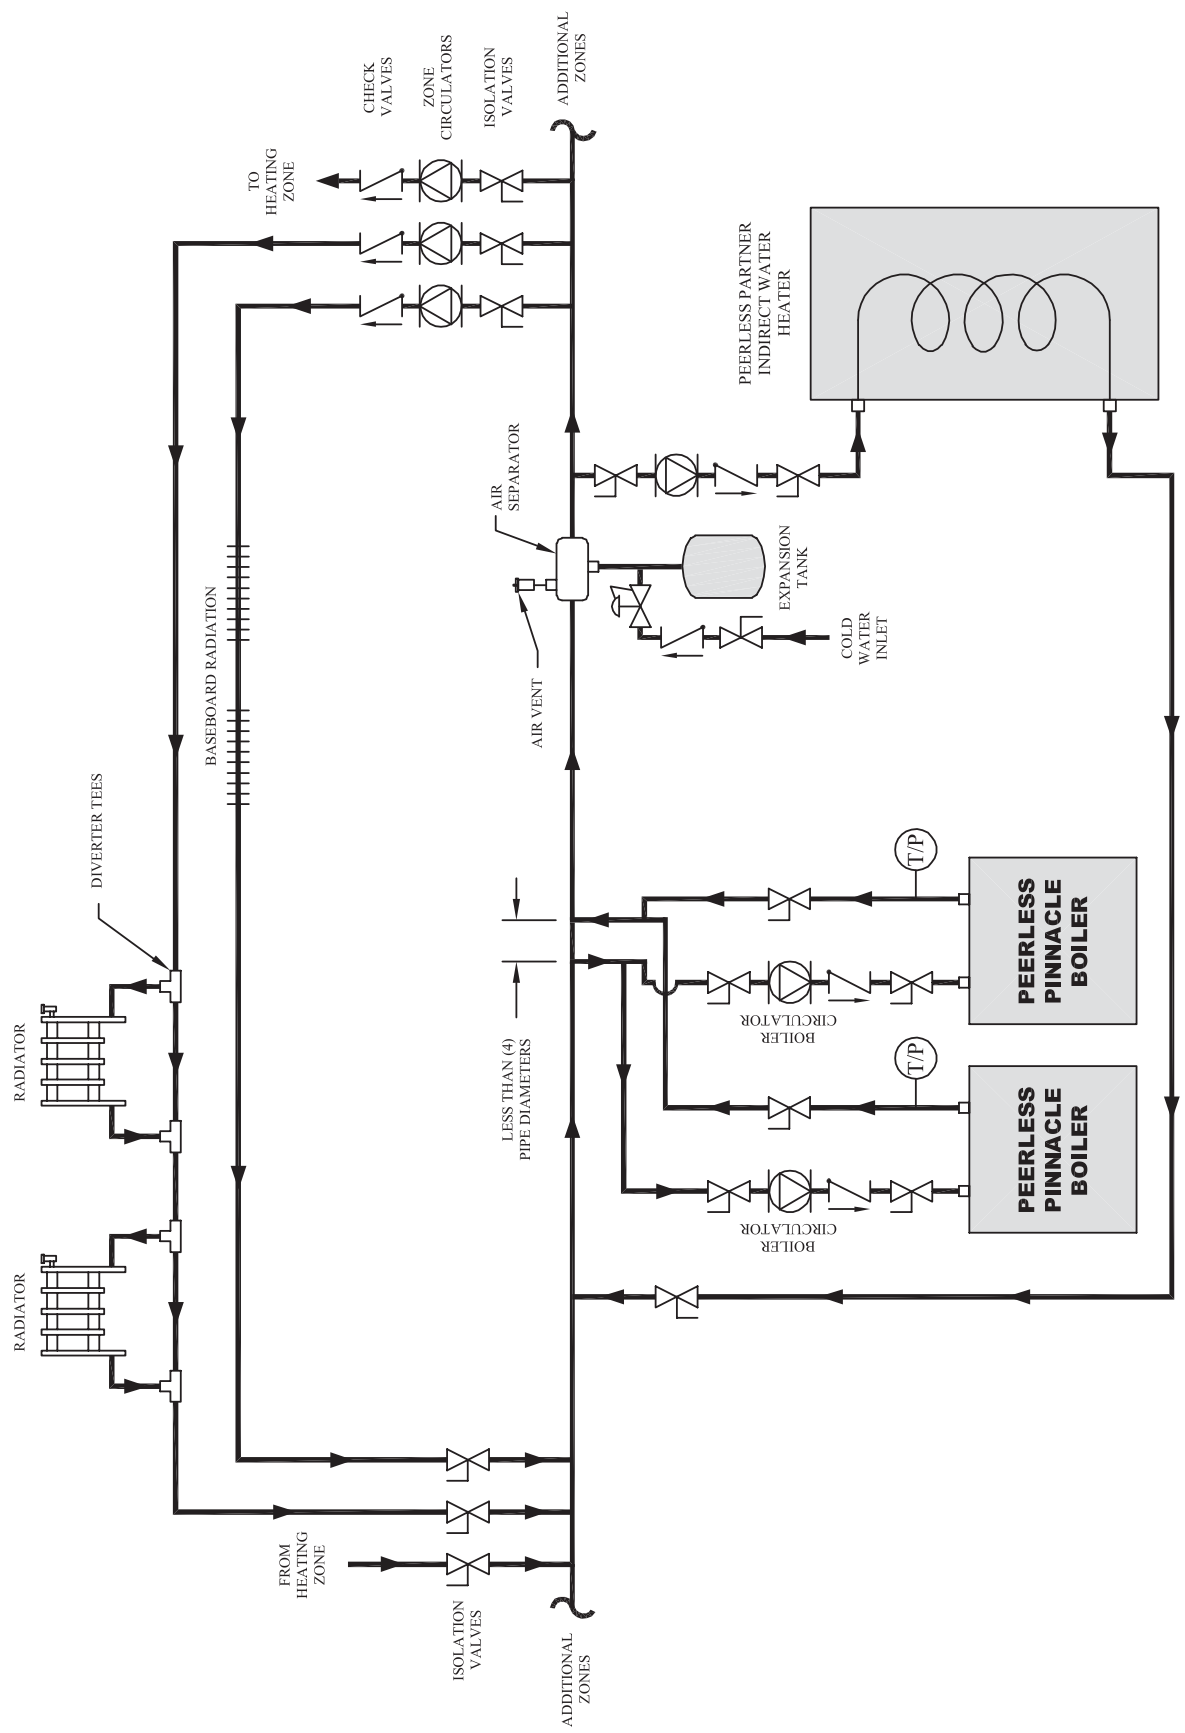

Figure 3.5: Two Boilers, Primary/Secondary with Four Zones (Zone Circulator)
- Figure 3.5 shows diverter tees used in combination with conventional hydronic radiators on an additional zone. A second boiler is also added to the system. Notice that the boilers are piped in parallel on the secondary loop. It is important that the common headers are sized to match the system piping. Smaller headers may result in flow fluctuations through the boilers.